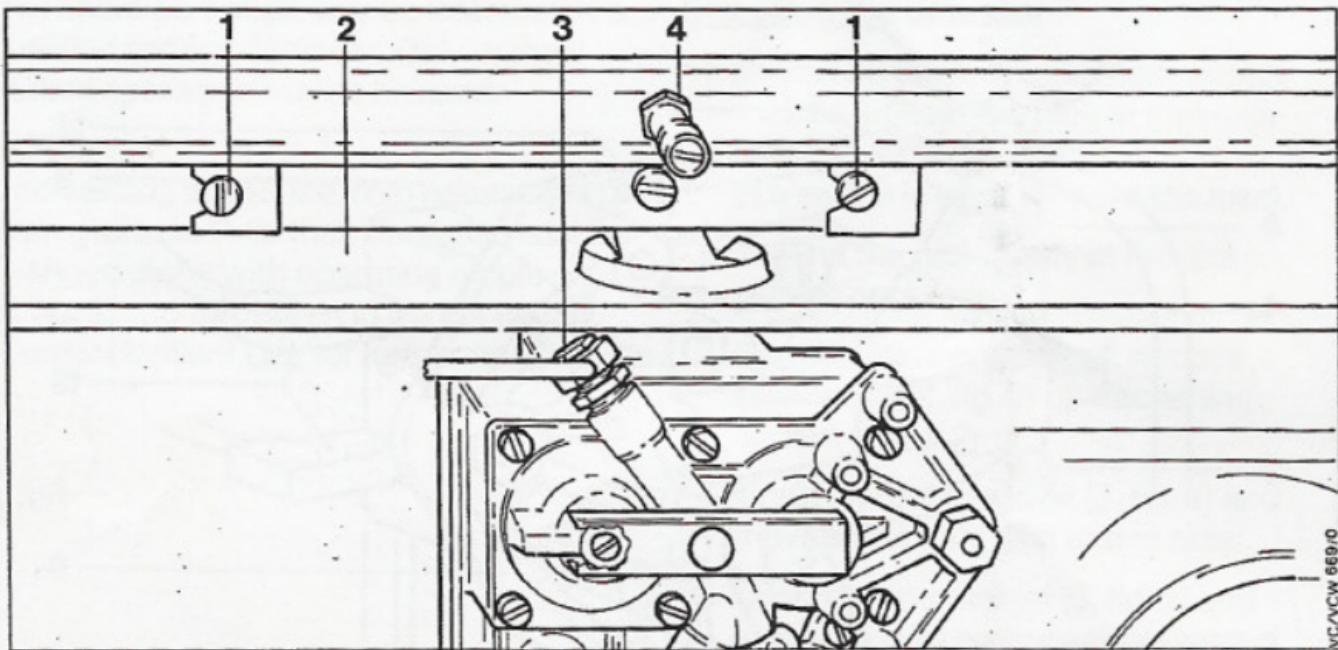

Fig. 2
3. If appliance is open flued, remove burner tray (2, fig. 2) by slackening screws (1, fig. 2).
(4, fig. 2) –